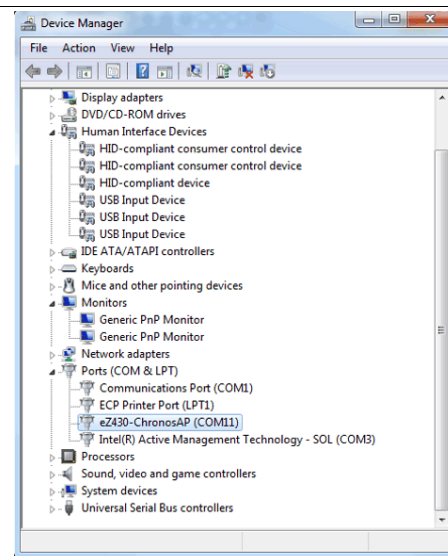

**Figure B-7. Windows Uncertified Driver Installation Warning**
7. A Windows warning appears as the driver is not certified. Click *Continue Anyway* (see Figure B-7). The drivers are installed.